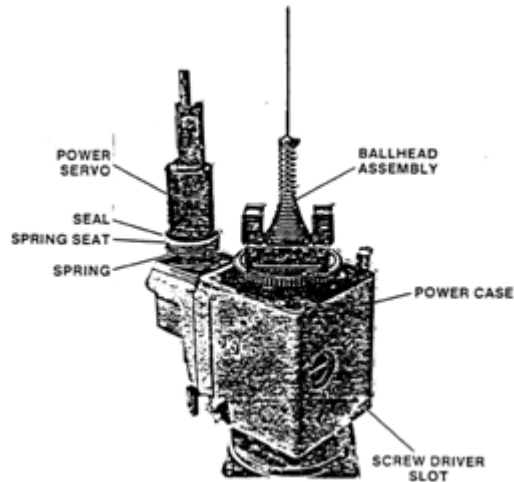

Figure 5-17. Power Case and Power Servo
19. Lift ballhead assembly out of power case (Figure 5-17).
20. Remove Spring, spring seat, and seal (Figure 5-17).
24. Turn power case upside down, remove 8 screws and lift off base (Figure 5-17).